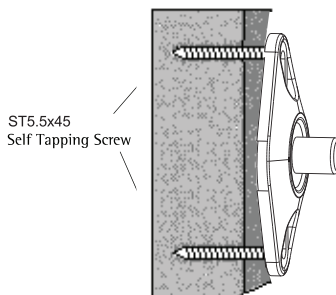

Figure 7
- NOTE: In wall mounting applications position mounting holes in a vertical pattern (Figure 7).
3. Drill holes through the drywall and into the wood stud using a 1/8" drill bit. These holes should be drilled 1-7/8" deep (Figure 7).